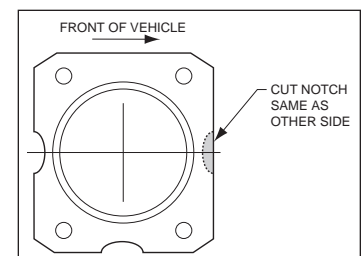

Figure 3. Flange Modifications
- Minor modification to the axle flange may be required, see text and figure 3 on page 3.
Axle housing flange may need to be modified by grinding. A relief, the same dimension as the OEM relief at the rear of the housing must be present at the front (of vehicle) side of the housing flange, see Figure 3. This is necessary in order to reinstall the OE wheel speed sensor onto the new backing plate assembly.